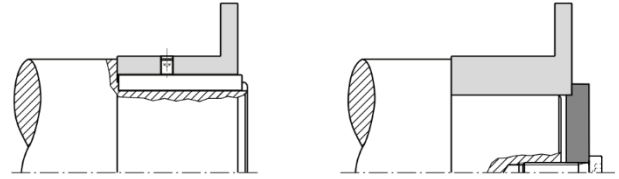

Fig. 6
- a) Mount the hubs (1 / 1.4 / 1.5) onto the shafts using a suitable device and secure them axially (Fig. 6). Axial securement takes place using a set screw (adjusting screw), which presses radially onto the key; or via a press cover and a screw, screwed into the shaft threaded center hole.